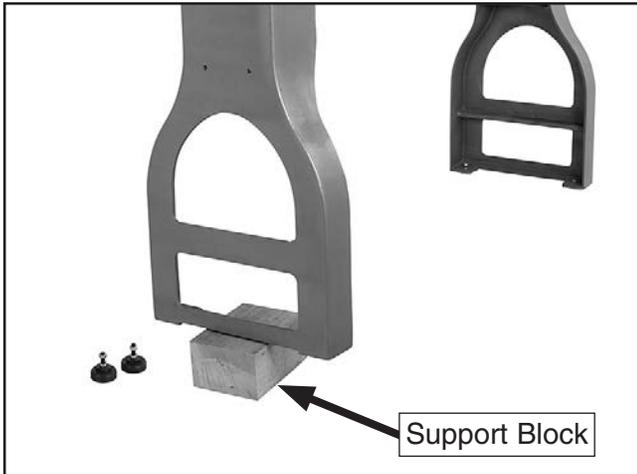

Figure 13. Example of legs being supported for feet installation.
- Use assistants to lift one end of lathe onto support blocks and stabilize lathe in preparation for installing machine feet (see **Figure 13**).